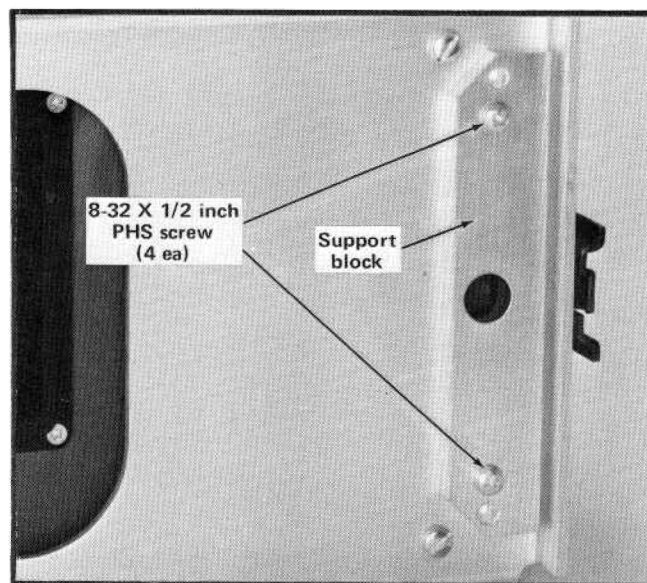

Fig. 6-7. Installing the support block on the instrument.
5. Install a support block on each side of the instrument as shown in Fig. 6-7.